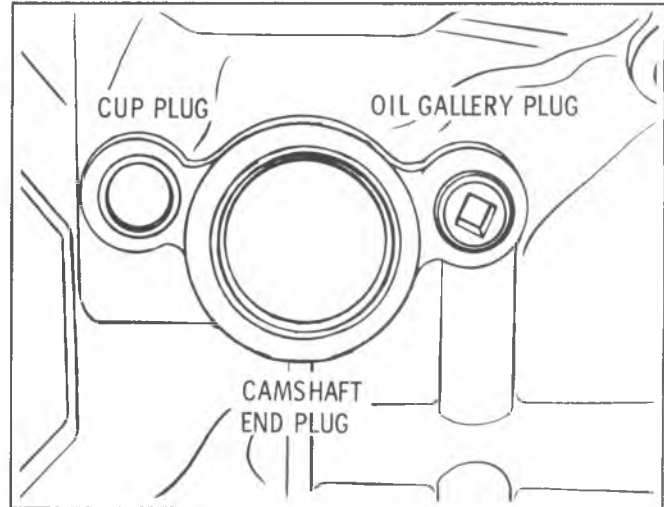

Fig. 6A6-90--Camshaft &amp; Oil Gallery Plugs
7. Use a piece of 3/32" (2.4mm) brass rod with a 90° bend at the end to check all oil hole openings. Wire must enter hole or the bearing will not receive sufficient lubrication. (See Fig. 6A6-89).
### Camshaft and Oil Gallery Plugs (Fig. 6A6-90)